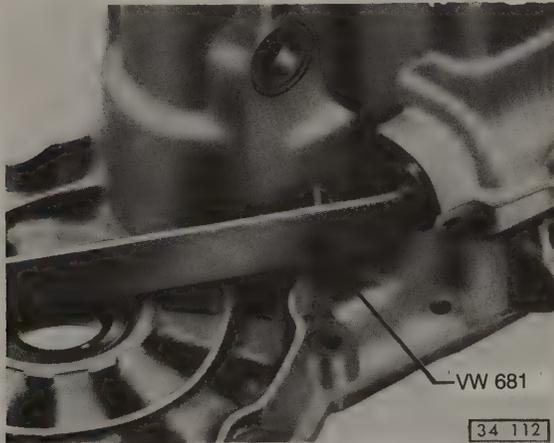

Fig. 6-8. Selector shaft oil seal being removed.
- Pry out the old seal, as shown in Fig. 6-8, and install a new seal.